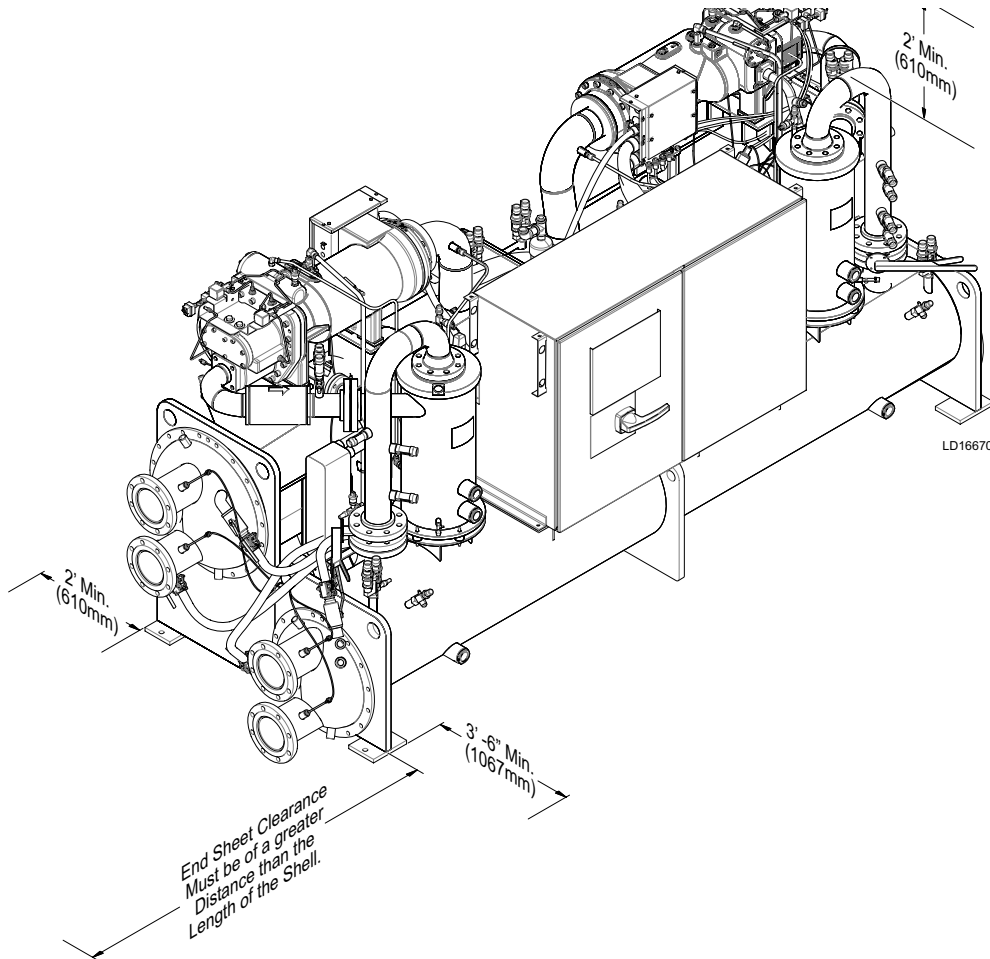

FIGURE 8 - SERVICE CLEARANCE REQUIREMENTS
To ensure adequate space for servicing the unit, adhere to the following clearances as shown in *Figure 8 on page 28*:
1. Determine the final location. Verify that the final location meets all of the minimum required clearances. Refer to *Figure 8 - Service Clearance Requirements on page 28*.